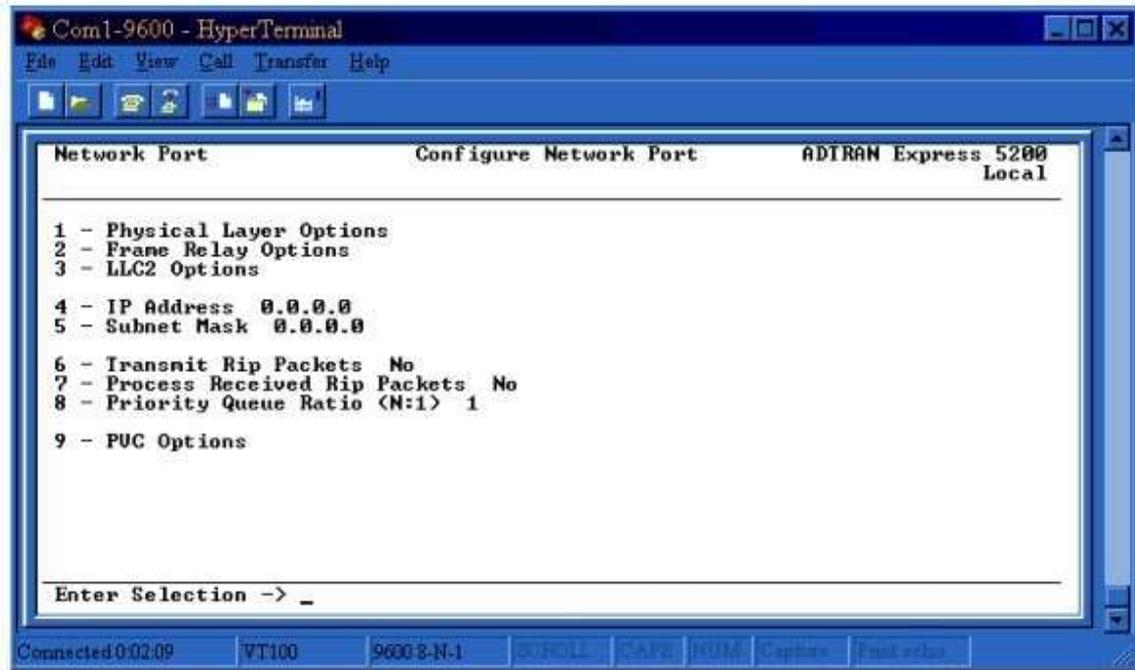

Figure 4
2. Enter 3 and press <enter> to select **Network Port**. See Figure 4. The **Network Port** is the port that will be connected to the frame relay line provided by Telco.